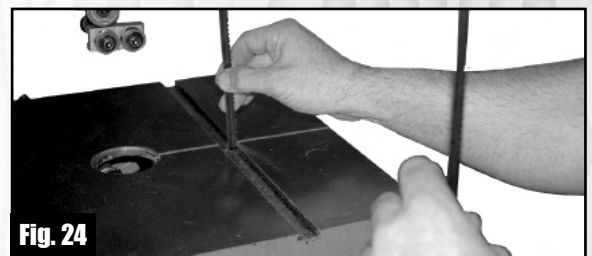

Fig. 24
- With the blade perpendicular to the wheels, feed the blade through the table slot to free it from the saw. (See Fig. 24)